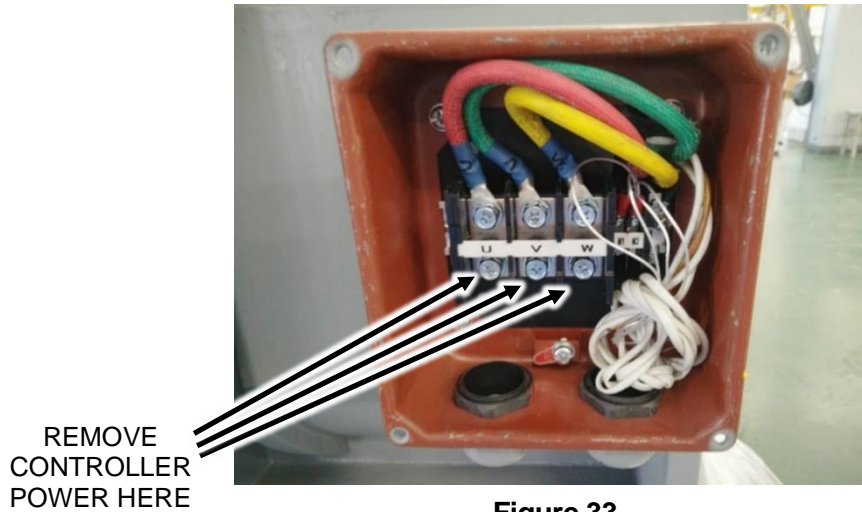

Figure 33
2. Disconnect machine power, see Figure 33.